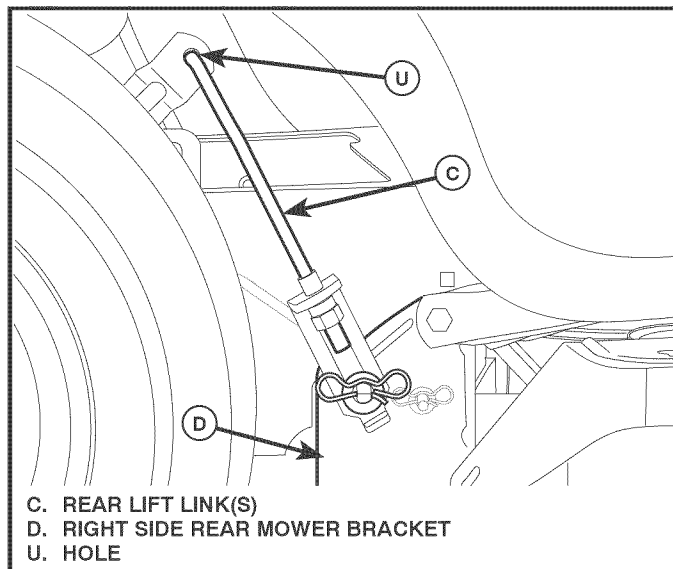

Fig. 31
7. ATTACH REAR LIFT LINKS (C) (See Fig. 31)
- Insert rod end of rear lift link (C) into hole (U) in tractor lift shaft suspension arm and pivot link down to mower.
- Lift rear corner of mower and position slot in link assembly over pin on rear mower bracket (D) and secure with large washer and large retainer spring.
8 ATTACH FRONT LINK (E) (See Fig. 31)
- From front of tractor, insert rod end of front link (E) through front hole in tractor front suspension bracket (F).
- Move to left side of mower and insert large retainer spring (G) through hole in front link (E) behind front suspension bracket (F).
- Insert other end of link (E) into hole in front mower bracket (H) and secure with washer and small retainer spring (J).